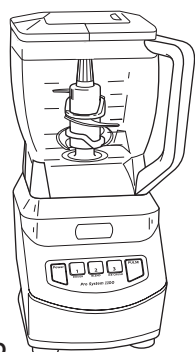

Fig. 10
- 2 Add the ingredients and secure the bowl lid onto the bowl. (Fig. 10)